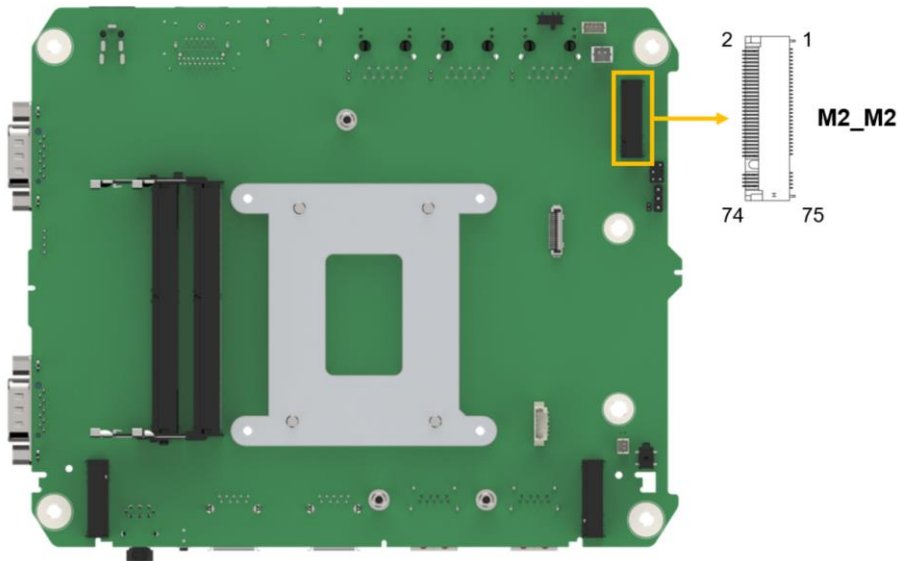

Figure 4-14: M.2 M-key Slot Location
- CN Location:** See Figure 4-14